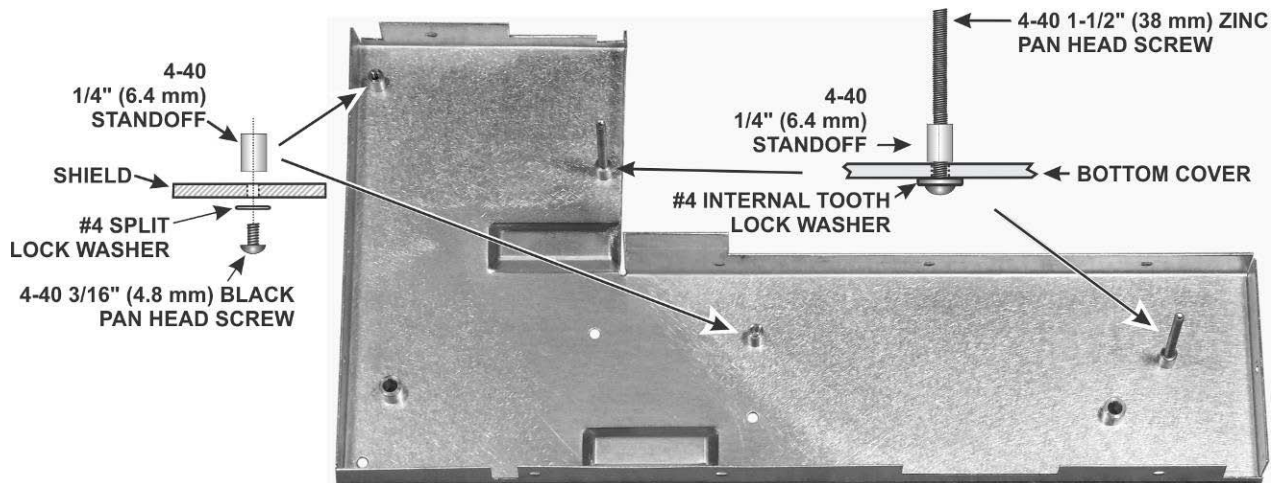

Figure 36. Mounting Standoffs on Shield Bottom.
- Install four standoffs on the bottom half of the KRX3A shield assembly as shown in Figure 36. The bottom of the shield has the shorter permanently mounted standoffs. The standoffs you install go on the same side of the shield as the permanent standoffs. There are extra holes in the shield. Be sure you put the standoffs in the correct locations and that the standoffs with the long screws are in the positions shown.